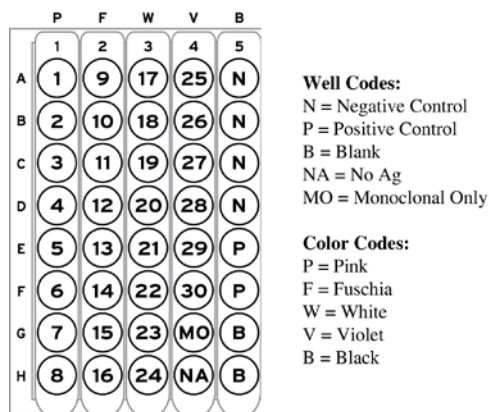

Figure 1
8. Add 50  $\mu\text{L}$  of the appropriate diluted control or sample to the wells as designated in figure 1. Add patient serum to all numbered wells and to the NA and MO wells.